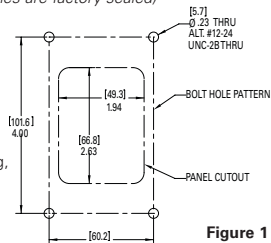

Figure 1
- Mount CFS Receptacles onto the enclosure in vertical position. See Figure 1 for panel cut-out dimensions.